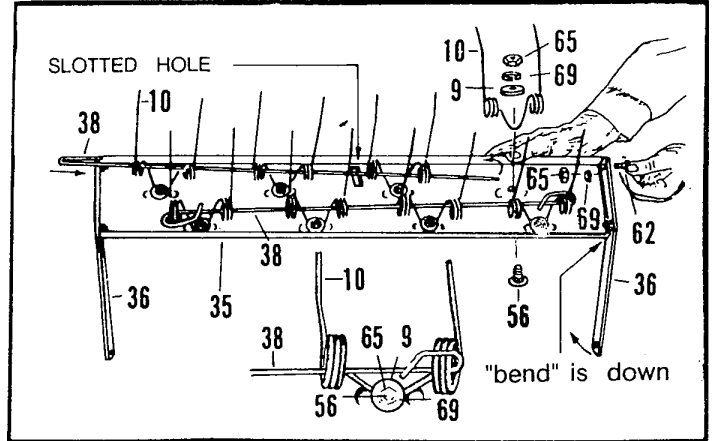
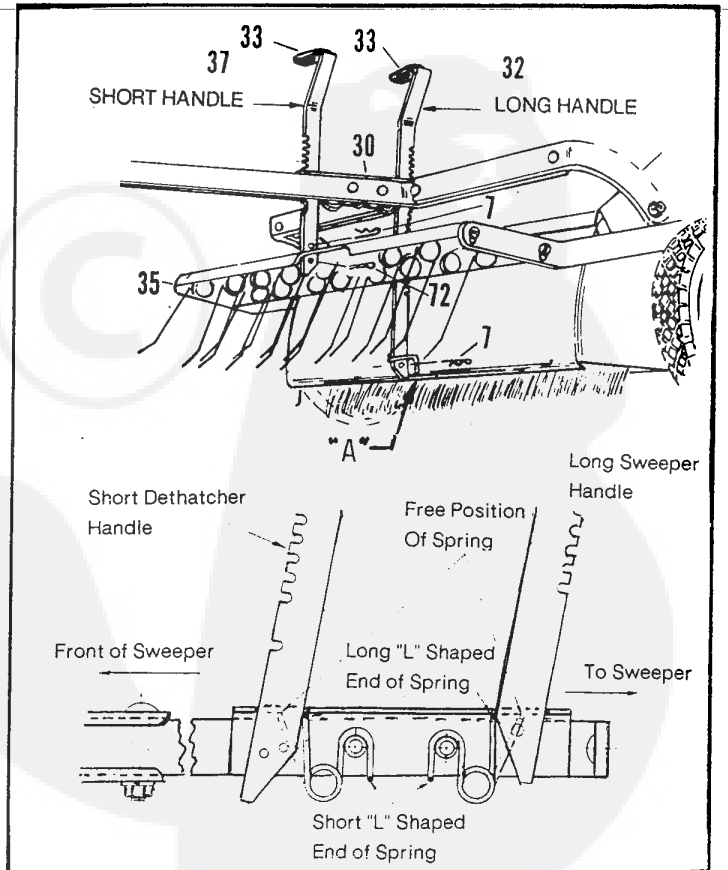

FIG. 2
FIG. 4
Note: If your unit is dethatcher equipped, proceed with Fig. 2. For Lawn Sweeper only, proceed to Fig. 4.
Refer to Fig 2
**LOCK BAR SPRINGS** Refer to Fig. 4
- While holding spring in place, push the (long) Sweeper Adjusting Handle (32) through the REAR slot in the Transport Lock Bracket (30) with the Notches Toward The Rear - the spring's "L" shaped leg will press against the smooth back edge of the Handle. Note: Make sure LONG leg of Spring stays at TOP of Transport Lock Bracket - AGAINST Lock Bar (See Insert Fig. 4).
- Secure with 1/8" x 2-1/2" Hairpin Cotter (7), using the hole at the bottom of Handle close to the "blunted" point.
- If your Sweeper is Dethatcher Equipped assemble the (short) Dethatcher Adjusting Handle (37), through slot in the front of the Transport Lock Bracket (30) in the same manner described above (Sweeper Adjusting Handle).
- Push the Handle through the slot located (in the center) at the front of the Tine Tray (35).
- Secure with a 5/32" x 1-1/4" Cotter Pin (72) through the bottom hole (bend legs over).
- Insert a 1/8" x 2-1/2" Hairpin Cotter (7) through the hole, above the top of the tray, as shown. This prevents the tray from bouncing up during dethatching.
- Push one Handle Grip (33) on Sweeper Handle (32), and one on the Dethatcher Handle (37), if your Sweeper is Dethatcher equipped.
Refer to Fig. 4